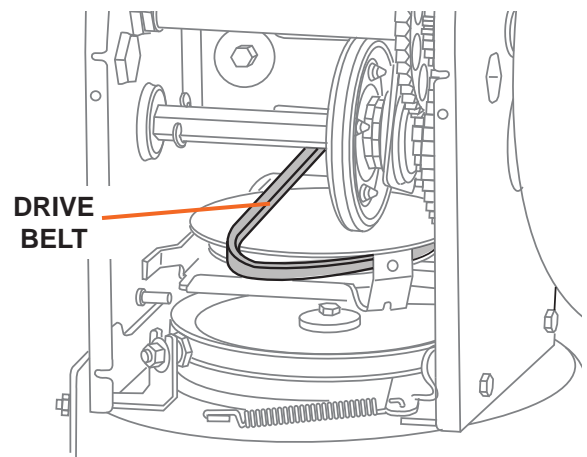

Figure 23
5. Remove the belt from the drive pulley, slip the belt between the support bracket and the drive pulley (see Figure 23).